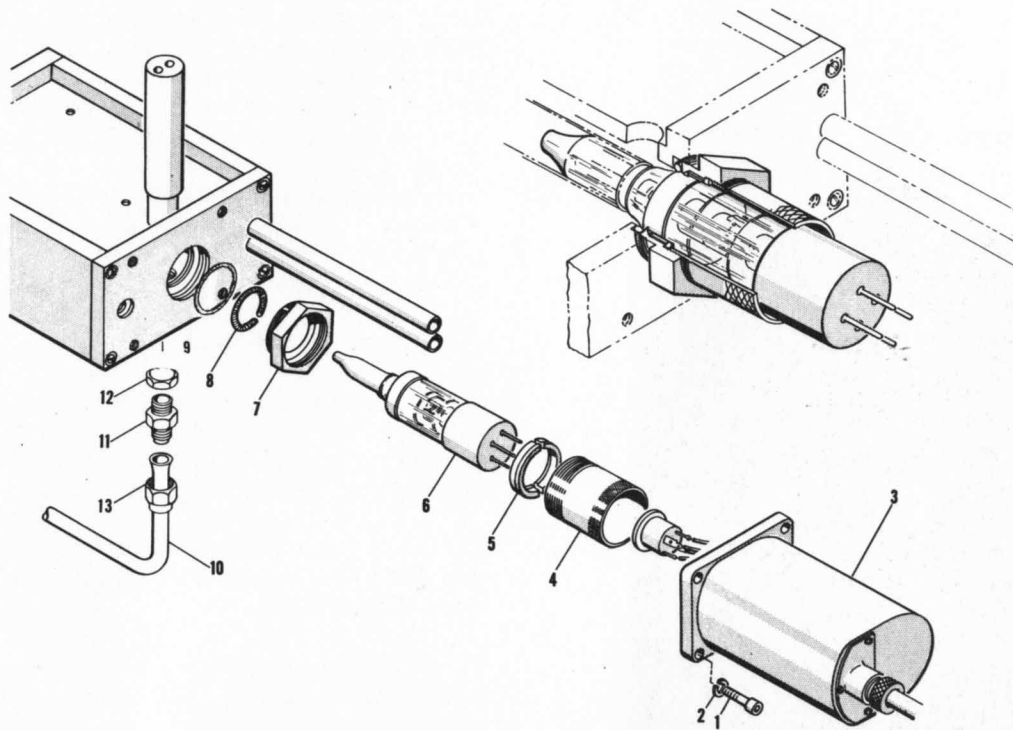

Figure 4-8. Exploded View of Klystron Mounting Parts
- 1) Remove the socket housing cap, screws and lock washers (items 1 and 2 shown in Figure 4-8) with the large key wrench located in the Fahstock storage clip on the rear chassis. Pull the housing (item 3, Figure 4-8) away until the tube socket is exposed.
- 3) Unscrew and remove sleeve (4) which covers klystron body.